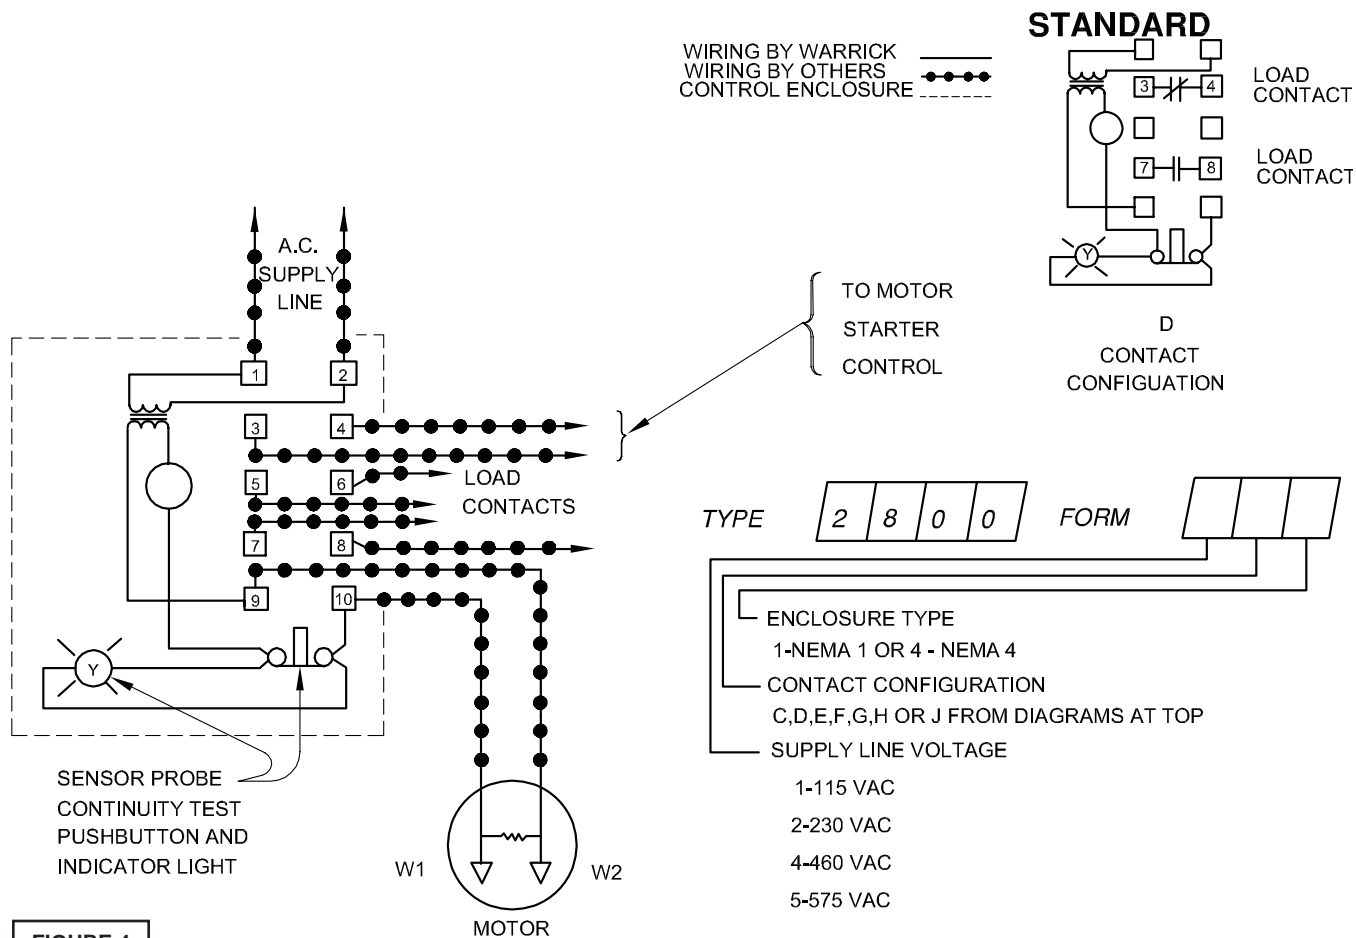

FIGURE 4
A normally open (N/O) detector is installed in the pump seal chamber, which will detect any moisture present, and a continuity test resistor built into the motor. The test resistor is rated 1 watt at 330K ohms. The moisture sensors **MUST** be connected to moisture detector control, which includes a continuity test circuit, see Figure 4 for typical wiring diagram. The normally closed (N/C) contact of the moisture detector **MUST** be connected in series with the stop button of the pilot circuit of the magnetic motor controller. A Warrick moisture detection control, Type 2800 is an acceptable control if properly installed and maintained. Wiring must be provided from the moisture detector sensor probe leads of the motor designated W1 and W2 to terminals 9 and 10 of the 2800-XXX control. Terminal pair 1-2 must be continuously energized from an A-C supply line of electrical characteristics shown on the data table. In the event of moisture detection, the pump should be pulled and the source of the failure located and repaired. **IF MOISTURE DETECTION HAS OCCURRED, SCHEDULE MAINTENANCE AS SOON AS POSSIBLE !**
- A moisture detection circuit with continuity test circuit (see Figure 4)